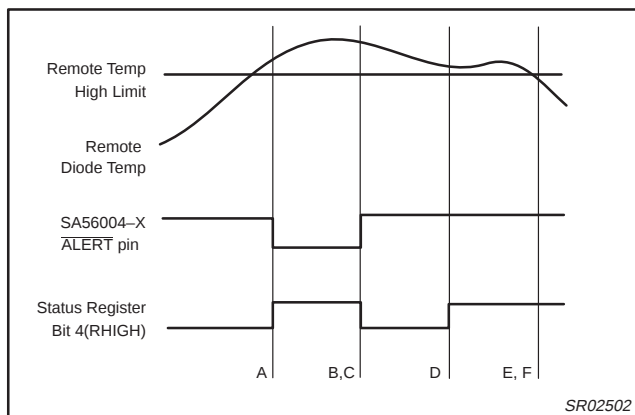

Figure 13. $\overline{\text{ALERT}}$ output in Interrupt Mode
In the interrupt mode, the $\overline{\text{ALERT}}$ output is used to provide an interrupt signal that remains asserted until the interrupt service routine has elapsed. In the interrupt operating mode, a read of the Status register will set the $\overline{\text{ALERT}}$ mask bit 7 of the Configuration register if any of the temperature alarm bits of the status register is set with exception of BUSY (D7) and OPEN (D2). This protocol prevents further $\overline{\text{ALERT}}$ output triggering until the master device has reset the $\overline{\text{ALERT}}$ mask bit at the end of the interrupt service routine. The Status register bits are cleared only upon a read of the status register by the serial bus master (See Figure 13). In order for the $\overline{\text{ALERT}}$ output to be used as an interrupt, the ALERT Configure bit D0 of the ALERT Mode (AM) register must be set LOW. Note, this is the POR default.